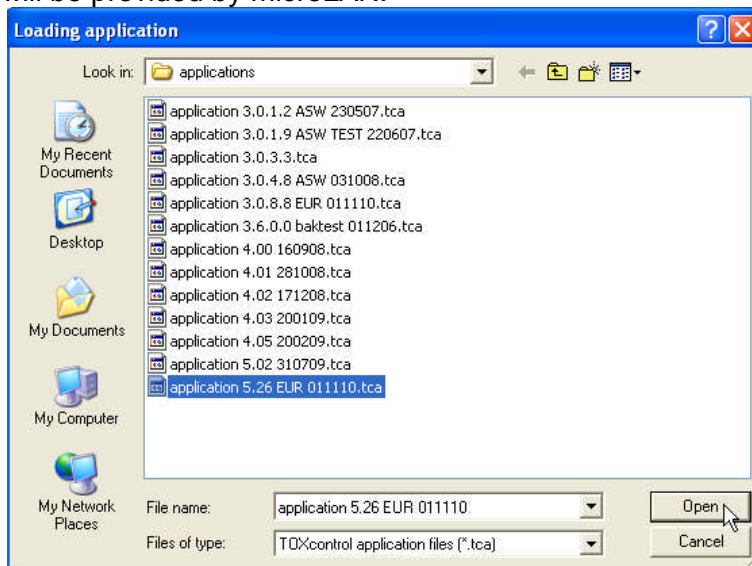

Figure 30: Loading application
- Step 2: Select “Loading application” and Figure 30: Loading application will appear.